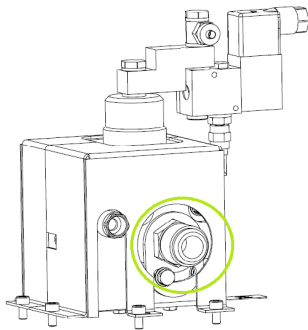

Figure 3-14 Connection for heated hose
2. Screw the hose onto the filling valve connection; refer to Figure 3-14. Use a second open-end wrench!